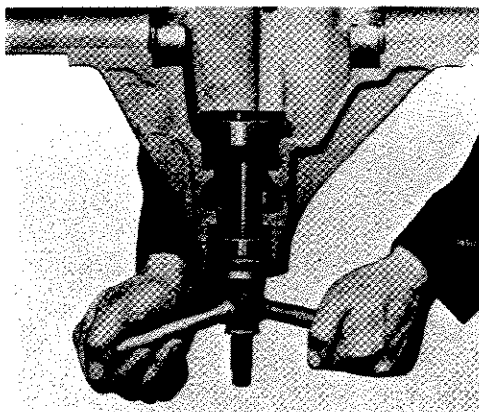
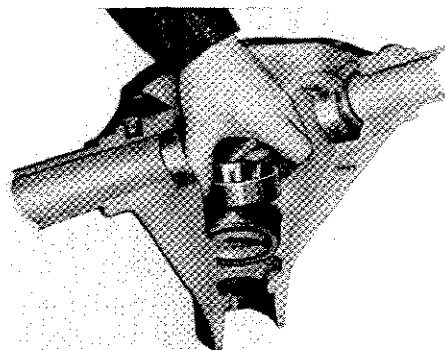

Fig. 18. Using Tool No. M.70 to install the pinion head and tail bearing outer rings
Fig. 23. Placing a shim pack under the pinion head bearing outer ring
Using Tool No. M.70, pull the outer rings of bearings (25) and (22) into position as shown in Fig. 18. Shims are not fitted at this stage.
Place a shim pack of the required thickness on the pinion head bearing abutment face (Fig. 23) and fit both bearing outer rings, as shown on Fig. 18.